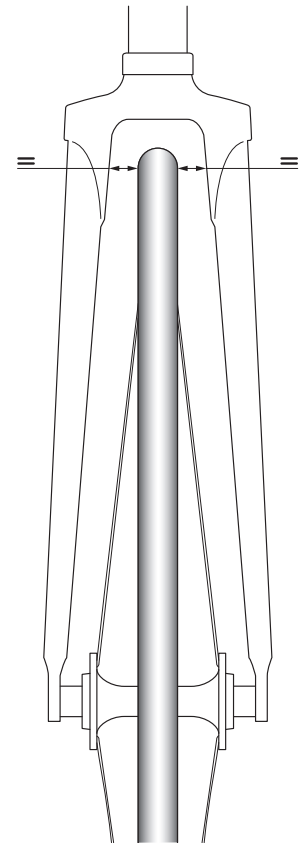

Fig. 19
- Ensure that the wheel is well centred with respect to the frame seat stays or the fork (Fig. 19).